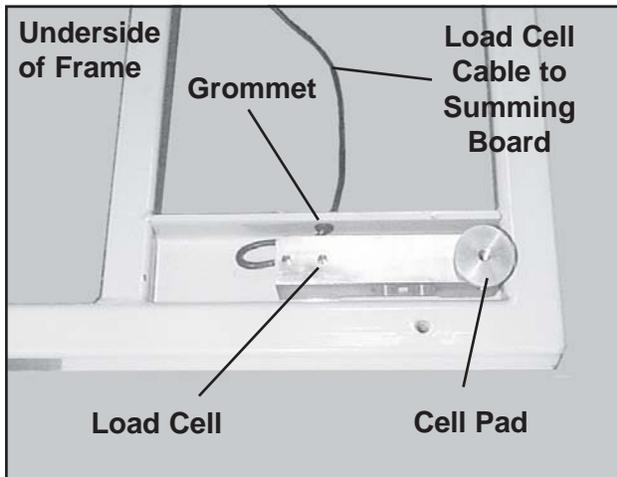

Figure 52. Typical Load Cell & Associated Parts
1. Slip the wires and cable from the new load cell though the grommet next to the load cell position (Figure 52).